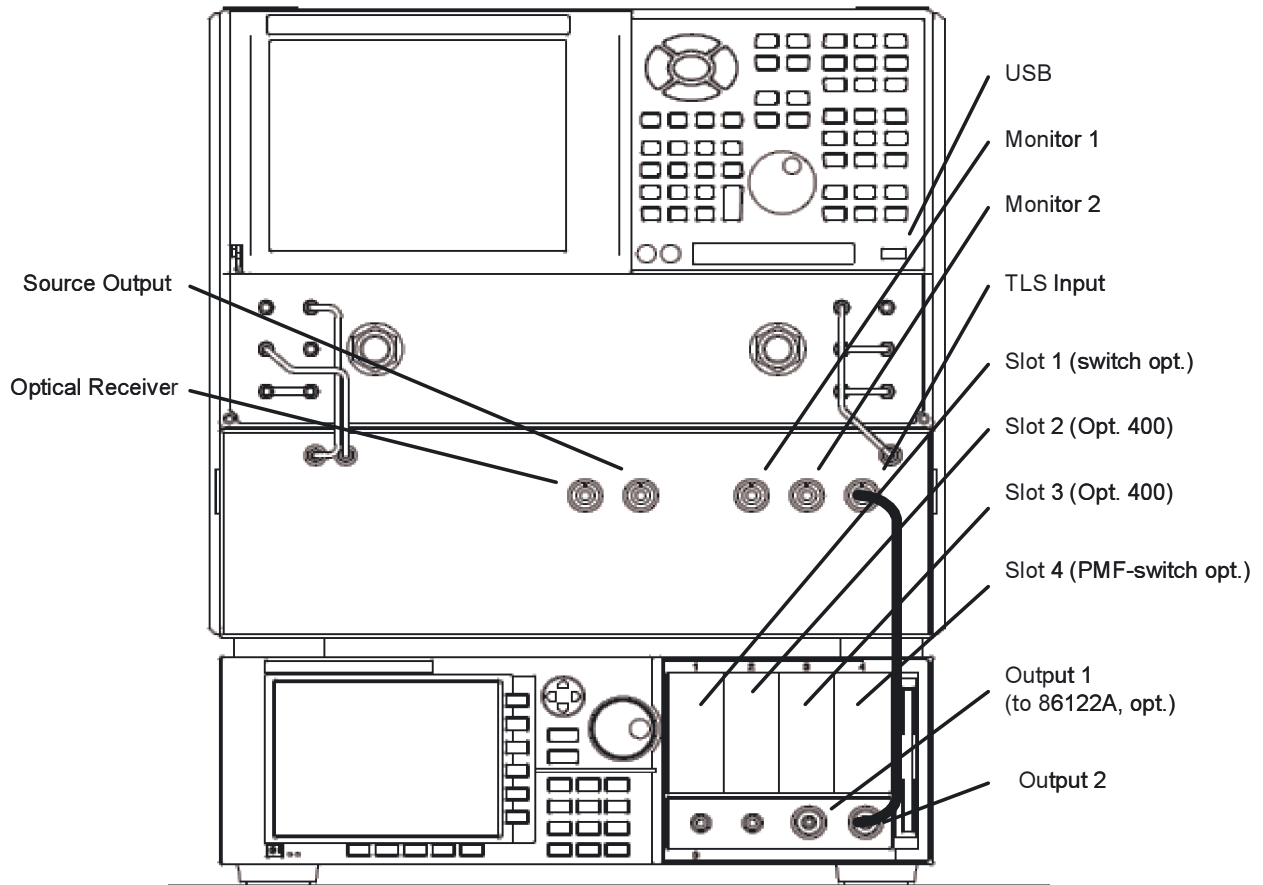

Figure 1 Front Panel
- 6 On the front panel, connect the 40 cm black protected patchcord (labeled "TLS Fiber") between TLS Output 2 and the TLS Input of the analyzer as shown in Figure 1. This patchcord is polarization maintaining fiber (PMF) and should not be interchanged with standard fibers. The connectors make angled contact.